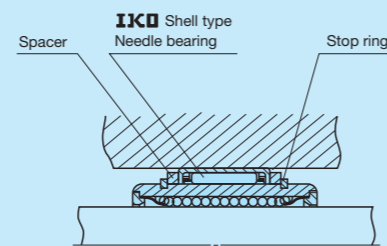

Fig. 3 Example of linear motion and rotational motion
Note (1) For hardness factor, refer to Fig. 3 in page III-5.
LM series units support only linear motion but do not support rotational motion. When performing rotational motion and linear motion of short stroke length, IKO stroke rotary bushing is recommended to be used. And, for the usage requiring rotational motion and linear motion of long stroke length, it is recommended to use in combination with IKO needle bearing as shown in Fig. 3.